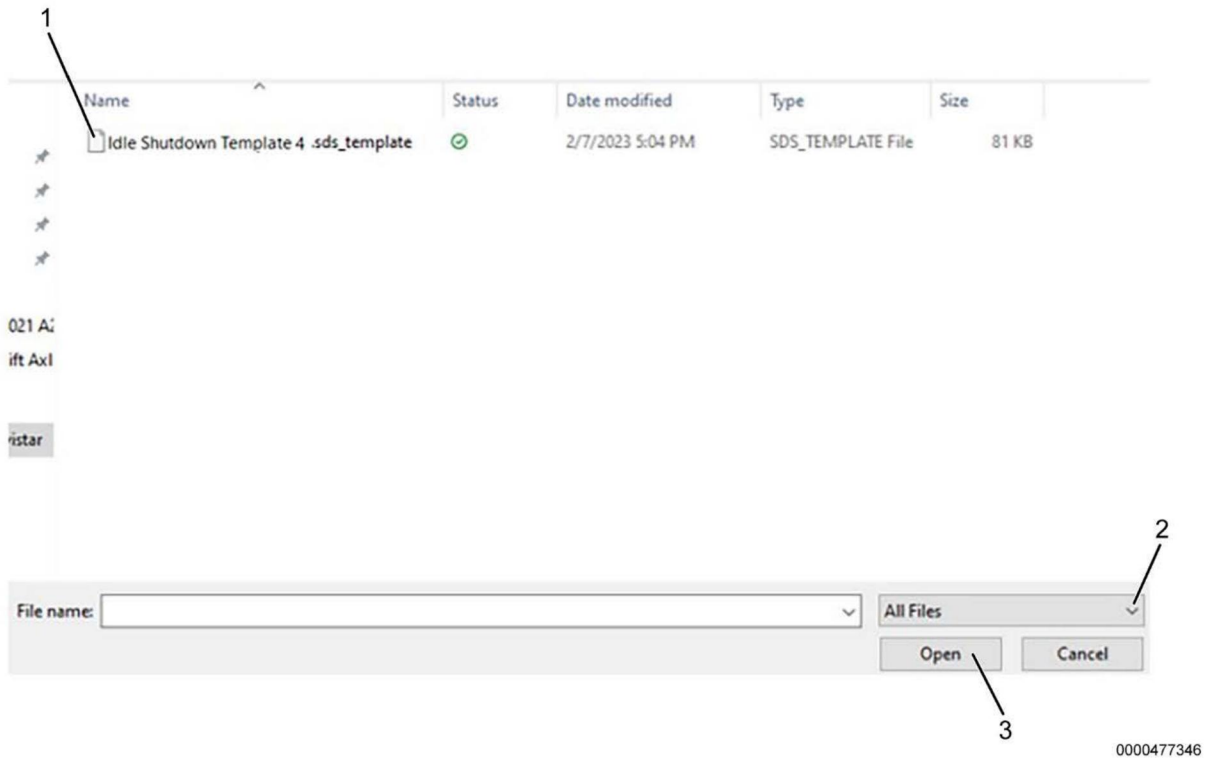

Figure 2. Load Template Screen
14. Ensure **ALL FILES** (Figure 2, Item 2) is selected in dropdown.
15. Select **Idle Shutdown Template 4** (Figure 2, Item 1).
16. Select **OPEN** button (Figure 2, Item 3).